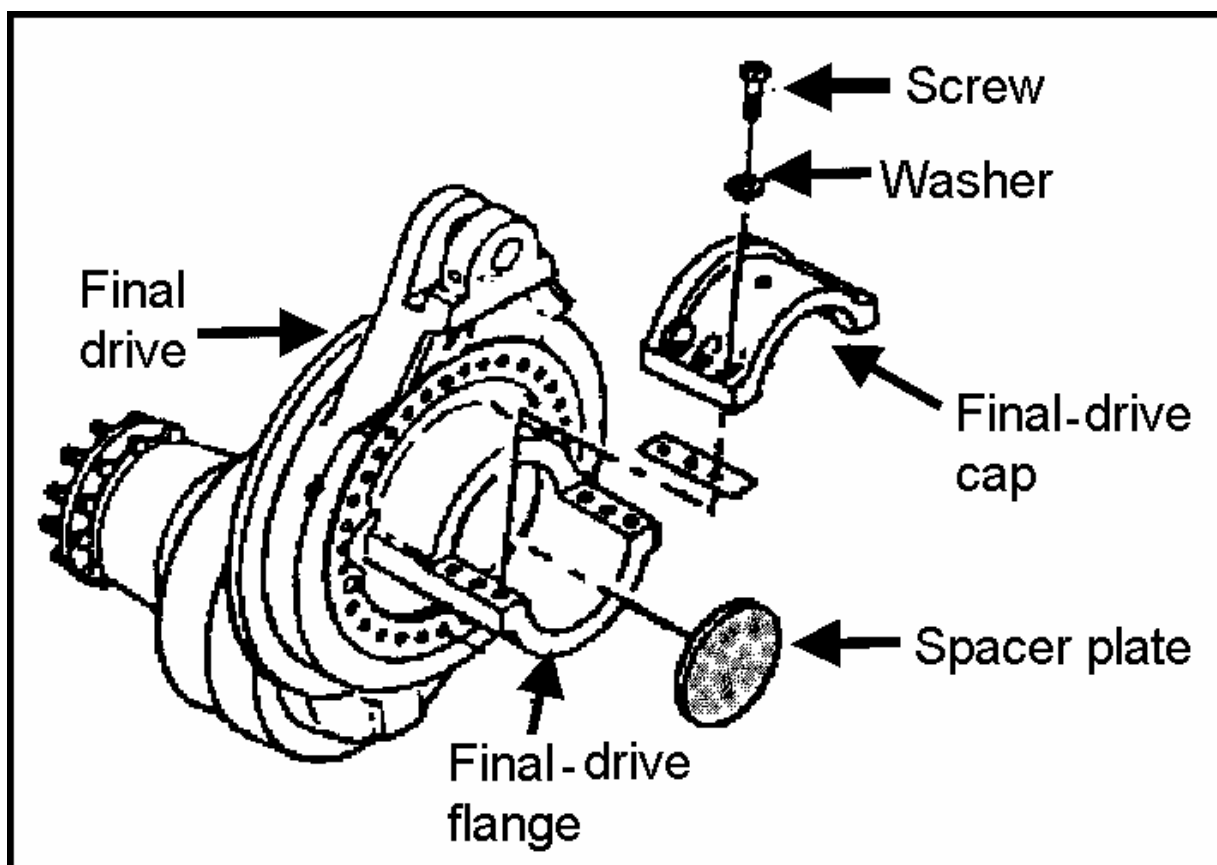

Figure 052-227-1104-5
10. Place the final-drive cap on the final-drive flange, and install the cap with the six screws and the six washers (Figure 052-227-1104-5).